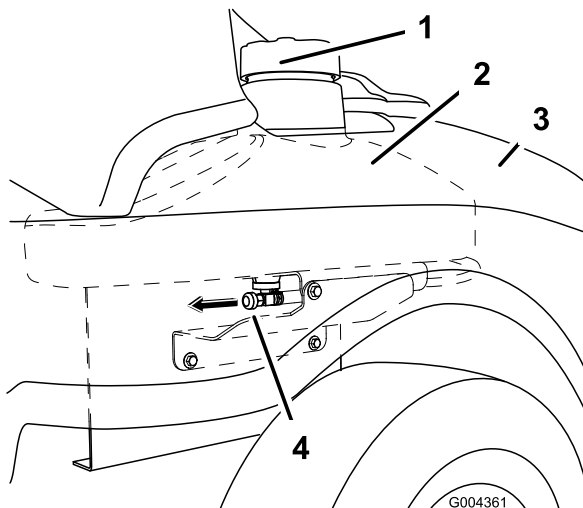

Figure 41
3. Close the fuel shut-off valve located under the front of the fuel tank (Figure 41).
7. Open the fuel shut-off valve. Allow fuel to drain into a gas can or drain pan (Figure 41).